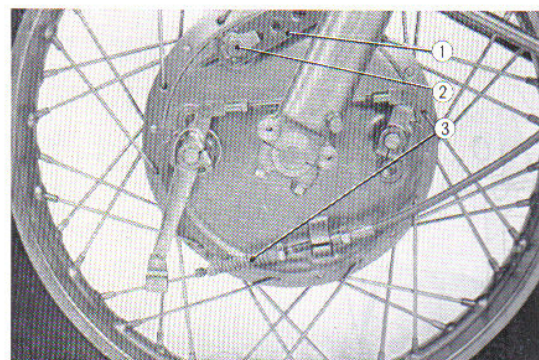

Fig. 4.74 Removing the front brake cable & torque link
- ① Front wheel bearing retainer
2. Disconnect the front brake cable and the brake torque link. (Fig. 4.74)